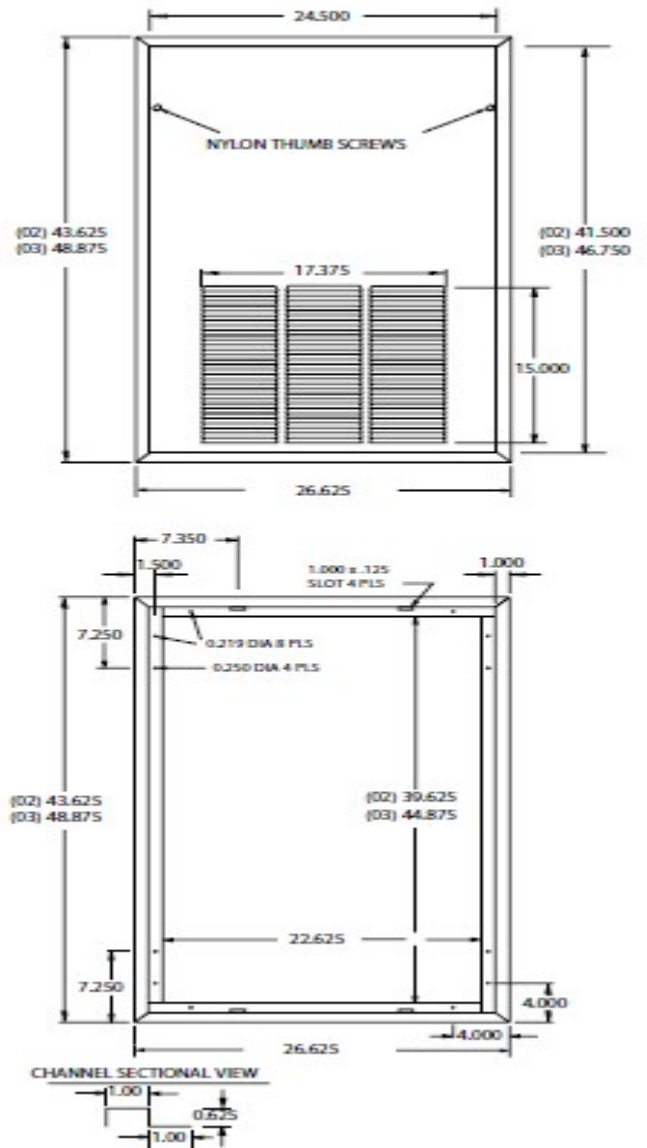

Figure 12: Optional Wall Panel Door Dimensions
8. When the coil is installed in a draw-thru application it will create a negative pressure situation in the condensate drain system. To prevent condensate from being drawn into the blower it is recommended to trap the primary (Main) and secondary (Overflow) drain line. Refer to CONDENSATE DRAIN SYSTEM and Figure 12 in these instructions. If the secondary drain is not used, it must be capped.